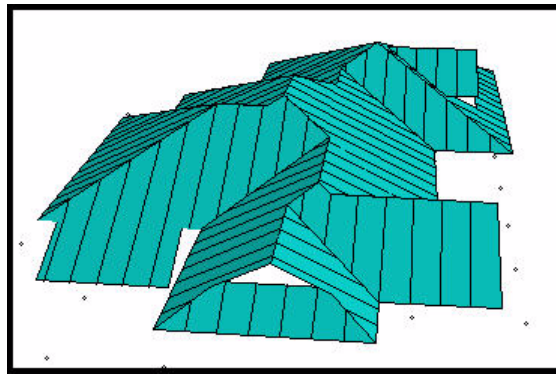

Figure 3-8 3D view of roof with eave extension
8. Click the  icon to view your roof in 3D. Your plan should look like Figure 3-8.